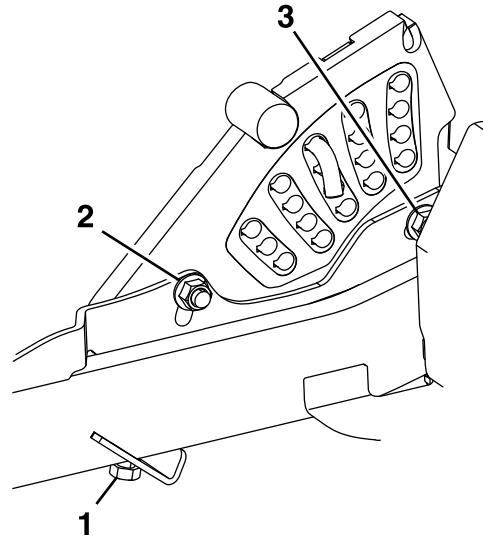

Figure 83
- If the deck is too low, tighten the single-point adjustment bolt by rotating it clockwise (Figure 83).